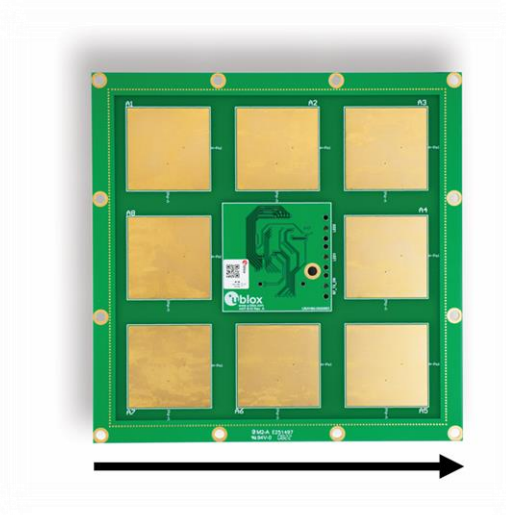

Figure 7: Tag movement
The beacon moves from a positive value (20) to a negative value (-10). The movement of the tag for these events is shown in Figure 7.